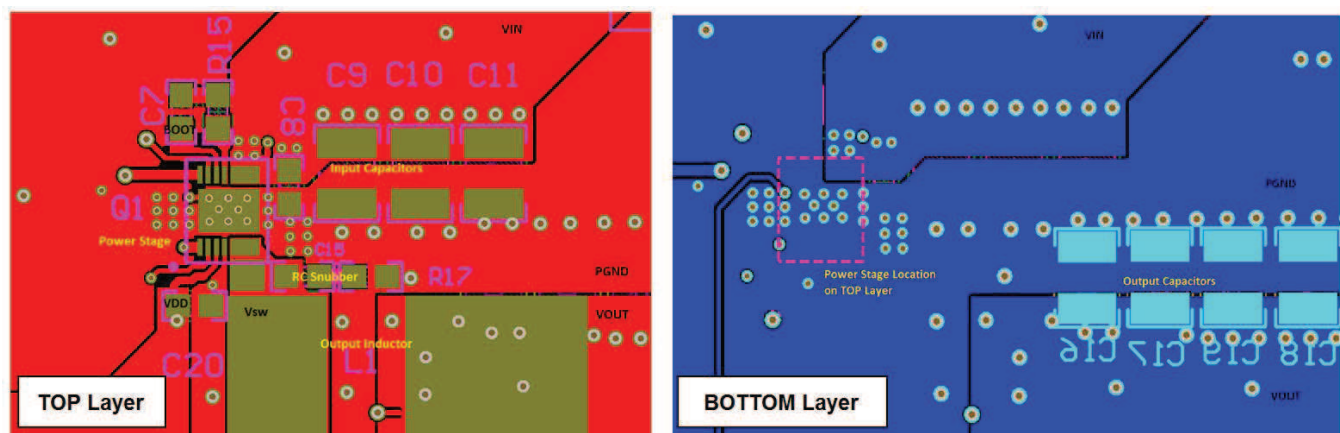

Figure 14. Recommended PCB Layout (Top Down View)
- The placement of the input capacitors relative to V_{IN} and P_{GND} pins of CSD95379Q3M device should have the highest priority during the component placement routine. It is critical to minimize these node lengths. As such, ceramic input capacitors need to be placed as close as possible to the V_{IN} and P_{GND} pins (see Figure 14). The example in Figure 14 uses 1 × 1 nF 0402 25 V and 3 × 10 μF 1206 25 V ceramic capacitors (TDK part number C3216X5R1C106KT or equivalent). Notice there are ceramic capacitors on both sides of the board with an appropriate amount of vias interconnecting both layers. In terms of priority of placement next to the Power Stage C8, C9, C10 and C11 should follow in order.
- Use the smallest drill size allowed in your design. The example in Figure 14 uses vias with a 10 mil drill hole and a 16 mil capture pad.